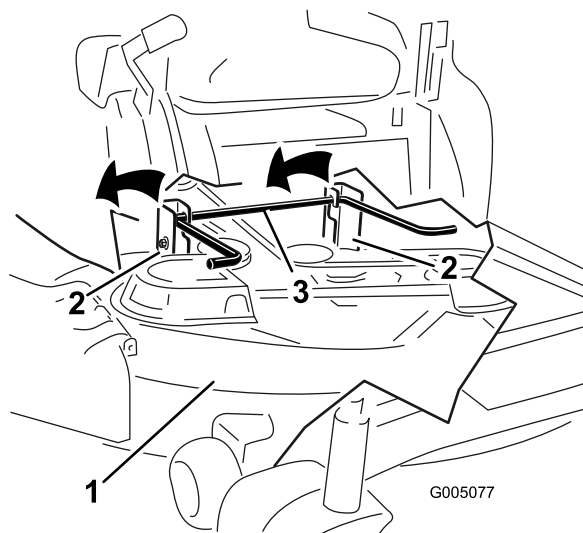

Figure 65
- Lift the rear of the mower deck and guide the hanger brackets over the rear lift rod (Figure 65).